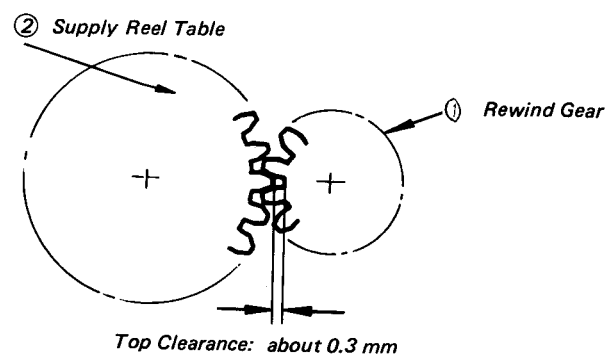

Fig. 5-51 Rewind Gear Engagement Adjustment
14-1. Checking (Fig. 5-51)
5. Check to insure that the top clearance of the gears is 0.3 mm (see Fig. 5-51).
14-2. Adjusting the Rewind Gear Engagement (Fig. 5-51, 5-52).
2. Loosen the two screws (4) holding the rewind solenoid (3).
3. Slide the rewind solenoid (3) in the direction A (←).
4. Set the VCR in the rewinding mode of operation to energize the rewind solenoid (3).
5. Move the rewind solenoid (3) by pressing a bladed screwdriver to the rectangular hole on the reel chassis until the gear top clearance is 0.3 mm (see Fig. 5-51).
6. Tighten the screws (4).
7. If the rewind solenoid (3) is defective in the plunger attention, then replace the rewind solenoid (3) by following Item 14-3 below.